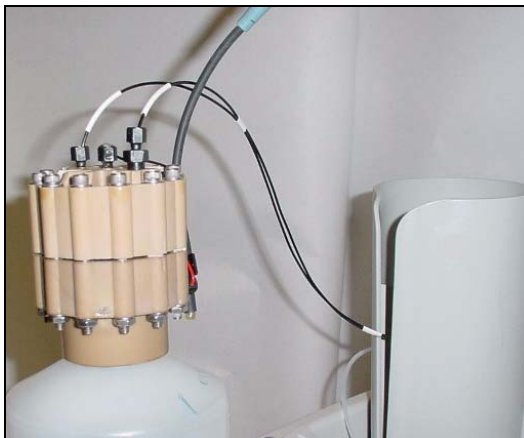

Figure 80. EluGen Cartridge Port Connections
4. Connect the **EGC IN** line to the EluGen cartridge **INLET** port (see Figure 80).